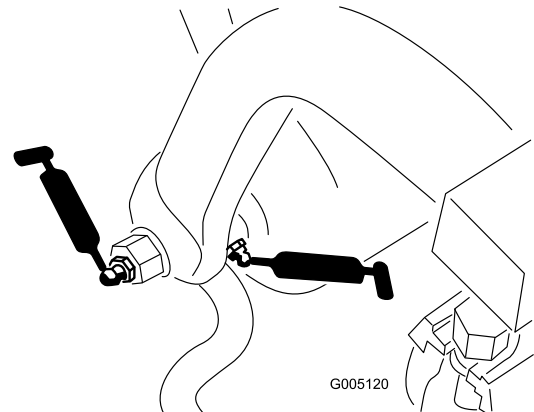

Figure 33
- Pull-frame shaft and roller (12) (Figure 33)